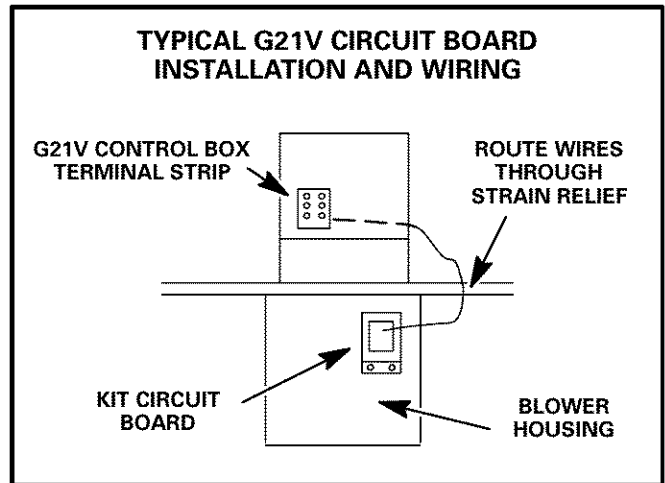

**FIGURE 3**
- 7- Before tightening mounting bracket screws, belly band screw and motor shaft set screw, the embossed arrow on the ICM2+ motor must be pointing **UP** (perpendicular to the blower housing opening). In this position, the control and power plugs on the motor will face downward. See figure 3.